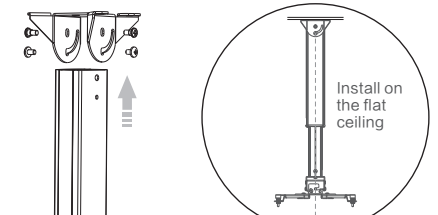
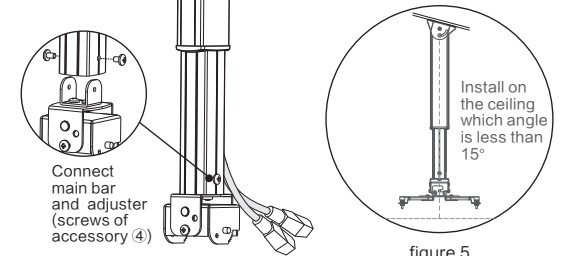

figure 4
figure 5
- 2 Connect the GPCN Main Bar Overview to the fixation (screws of accessory ④). Store the power wire, and then fasten the front and back screws of main bar. Finally, install the ornament board of main bar as figure 4 and figure 5.